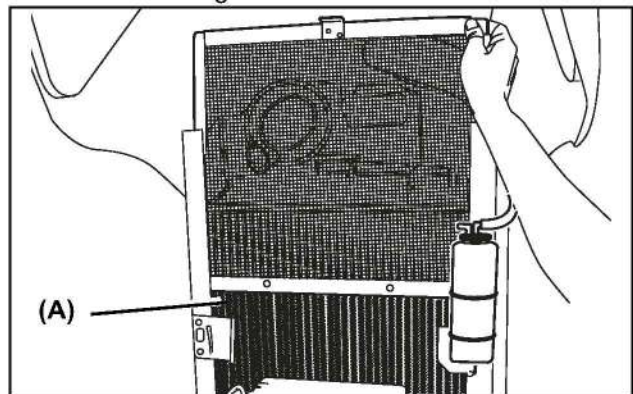

Fig 14-10
6. Pull out the radiator cooling screen (Fig 14-10, A).